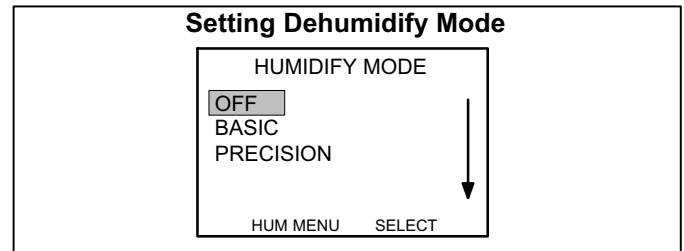

FIGURE 14
- 4 - To turn off dehumidification control entirely, select OFF. (The default setting for dehumidification is OFF.) To turn on basic dehumidification mode, select BASIC. To turn on precision dehumidification mode, select PRECISION. See figure 14.